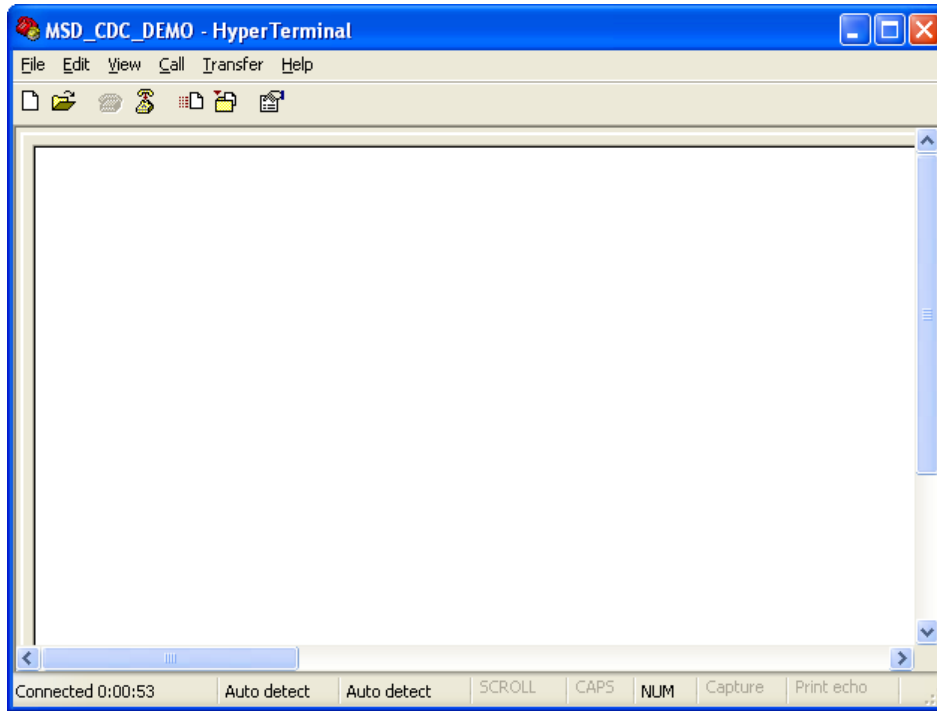

Figure K-30. HyperTerminal
Step 6. The HyperTerminal is configured now as shown in Figure K-30